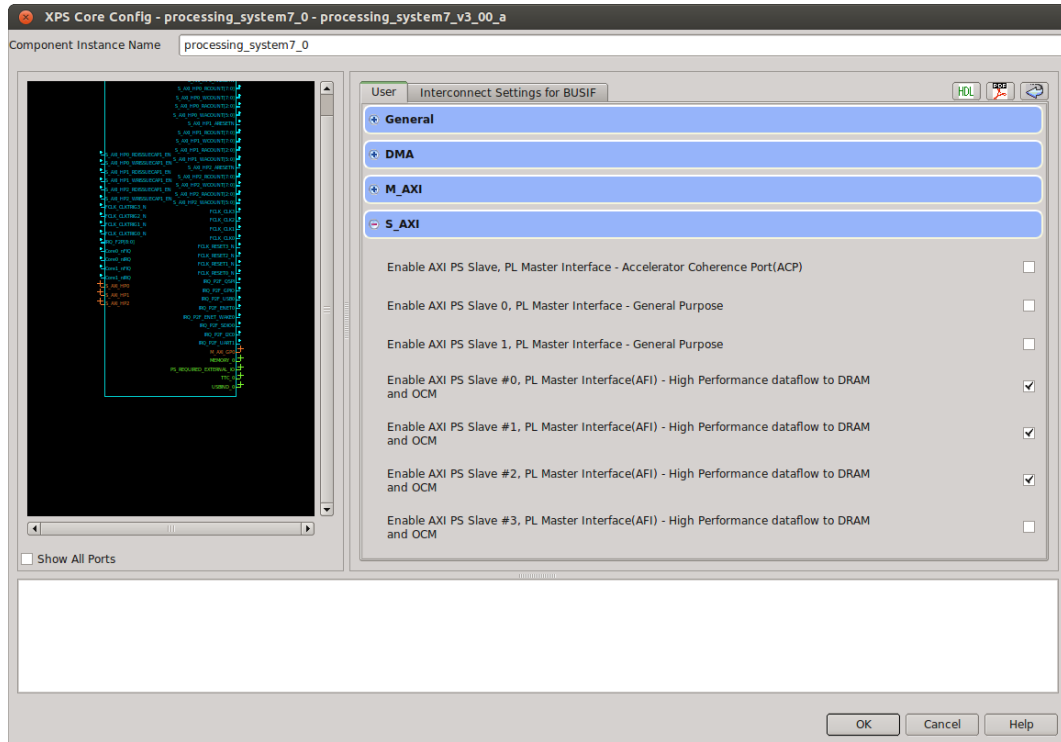

Figure 1.5.: HP Slave port for VDMA master instantiation.
12. We will need a bus-slave for the *VDMA* master in the *PS*. For this on *Zynq* tab, click on *High Performance AXI 32b/64b Slave Ports*. In the *XPS Core Config* expand *S_AXI*, select *Enable AXI PS Slave #1* (Figure 1.5), and click *OK*.